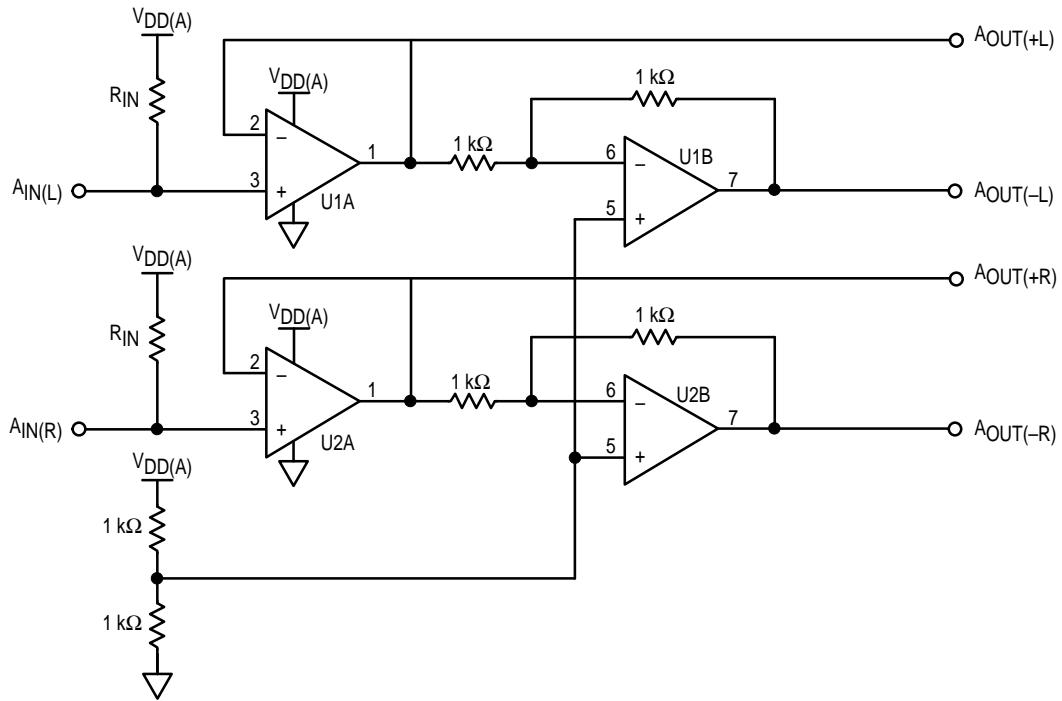

Figure 1. Input Buffer–Driver
(Full Temperature, CLK = 6.144 MHz in div1, $V_{DD(A)} = V_{DD(D)} = 5.0$ V, 1007.8 Hz Full-Scale Input Sinewave, 1.4 V p-p @ $A_{IN(L)}$ and $A_{IN(R)}$, Common Mode Input Voltage = 2.5 V. Measured bandwidth is 23 Hz to 24 kHz, inputs driven differentially per Figure 1.)
* For best performance $A_{IN(+L)}$, $A_{IN(-L)}$ and $A_{IN(+R)}$, $A_{IN(-R)}$ should be differentially driven. $A_{IN(+L)}$ or $A_{IN(+R)}$ (and $A_{IN(-L)}$ or $A_{IN(-R)}$) can be grounded for single ended configuration. Circuit in Figure 1 depicts input buffer circuit.